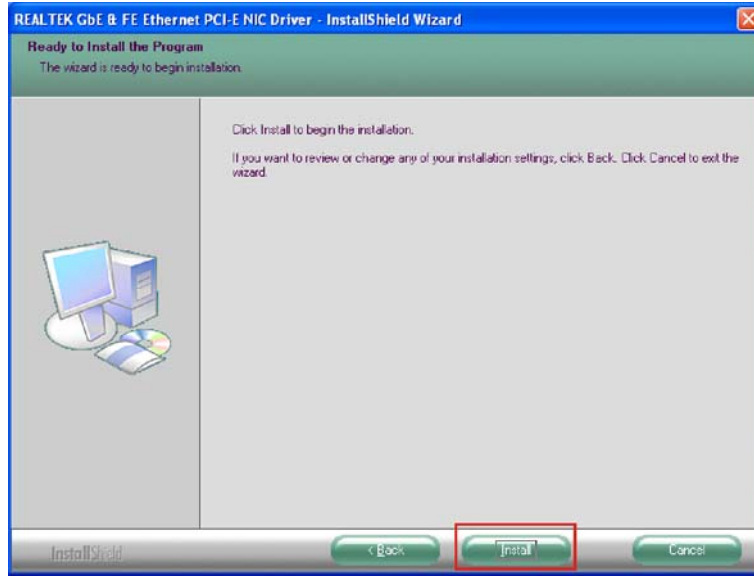

Figure 7-17: LAN Driver Welcome Screen
Step 40: The **Ready to Install** screen in Figure 7-17 appears.